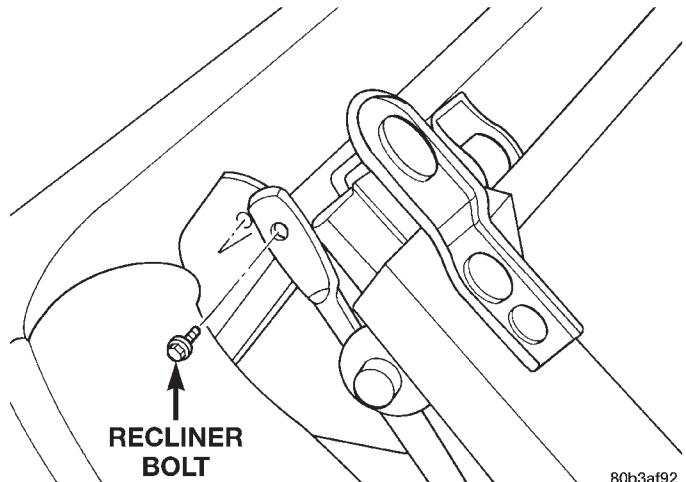

Fig. 5 Recliner Attaching Bolt
- (1) Remove seat from vehicle.
- (2) Remove seat cushion side shields.
- (3) Remove bolts attaching recliner to seat back cushion frame (Fig. 5).